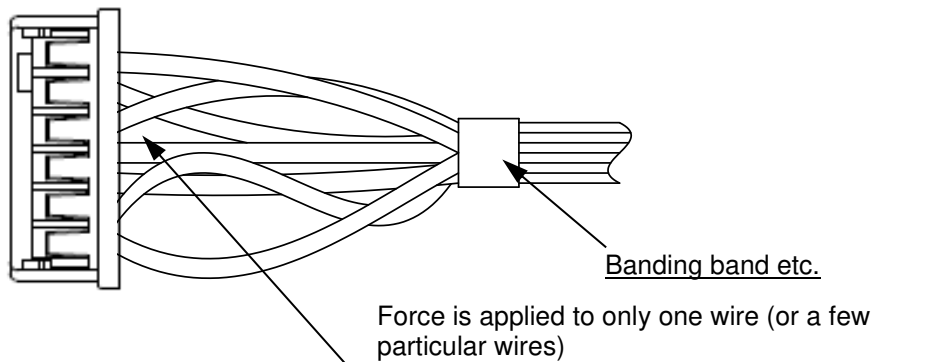

Fig.7-2 Harness is banded improperly
- ② As for the harness, please do not apply force to only one wire (or a few particular wires). (Fig.7-2)